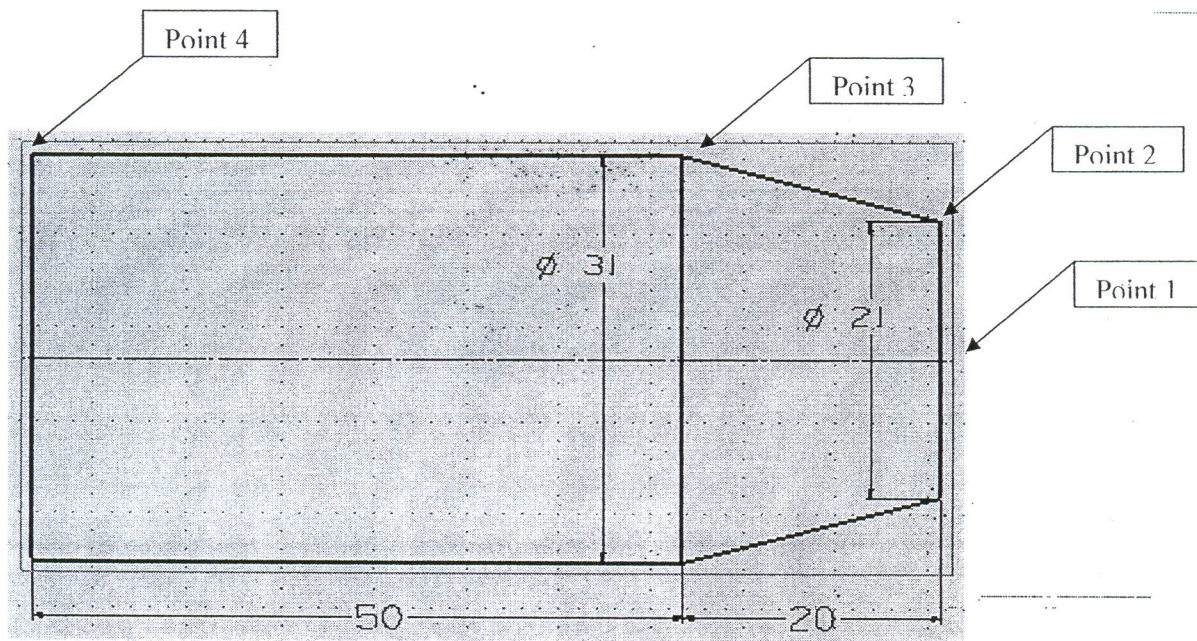

Figure 1
- b) Make a coordinate using Absolute System by using *Figure 1*.